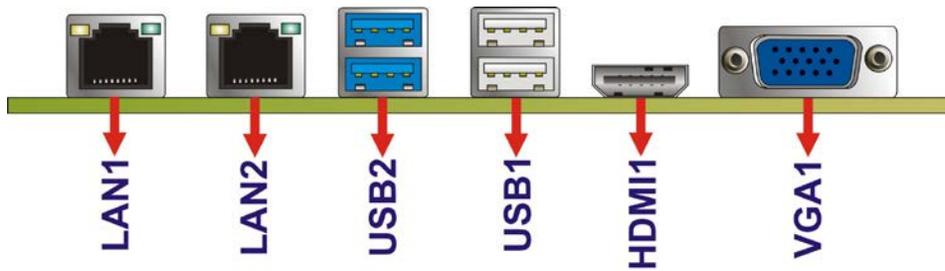

Figure 3-32: External Peripheral Interface Connector
Figure 3-32 shows the NANO-KBN-i1 external peripheral interface connector (EPIC) panel. The EPIC panel consists of the following:
- CN Location:** See **Figure 3-32**
CN Location: See **Figure 3-32**